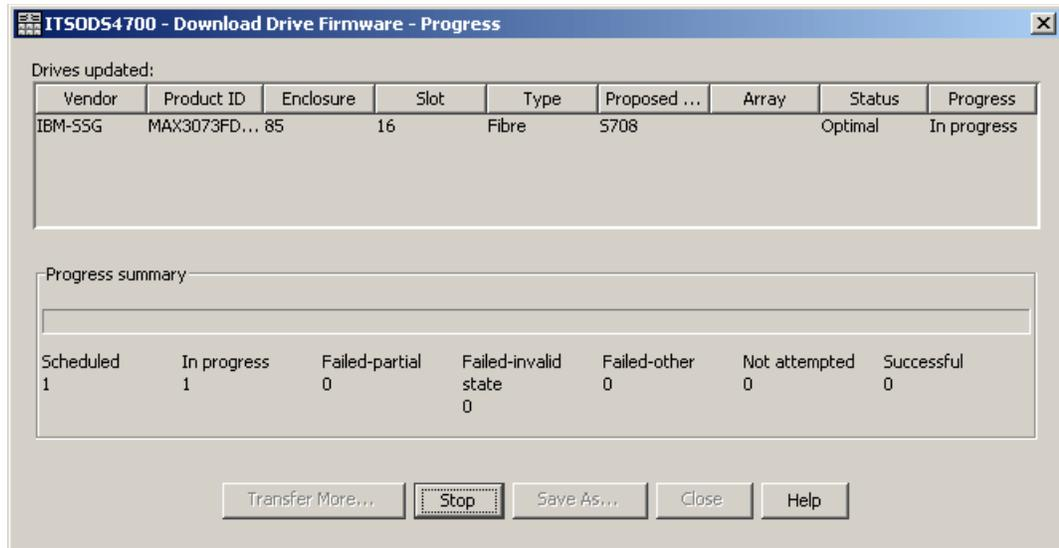

Figure 12-23 Drive firmware update: Download progress window
- Once the drive firmware download procedure starts, you can monitor the progress, as shown in Figure 12-23. This gives you information about the current status of the download. After the process is finished you can also see whether all drives were successfully updated.